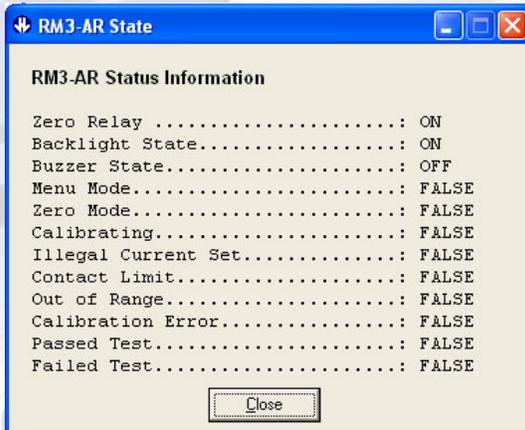

FIGURE 4
**RM3-AR State** – this gives the pop-up shown in Figure 4